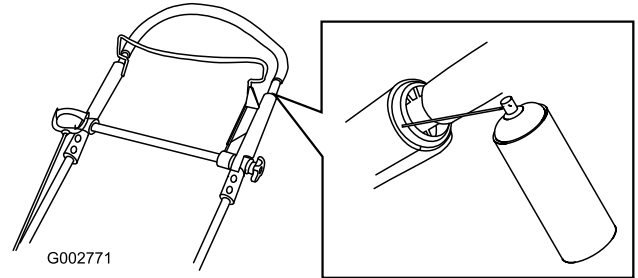

Figure 46
1. Spray the outer plastic end of the inner handle (Figure 46).